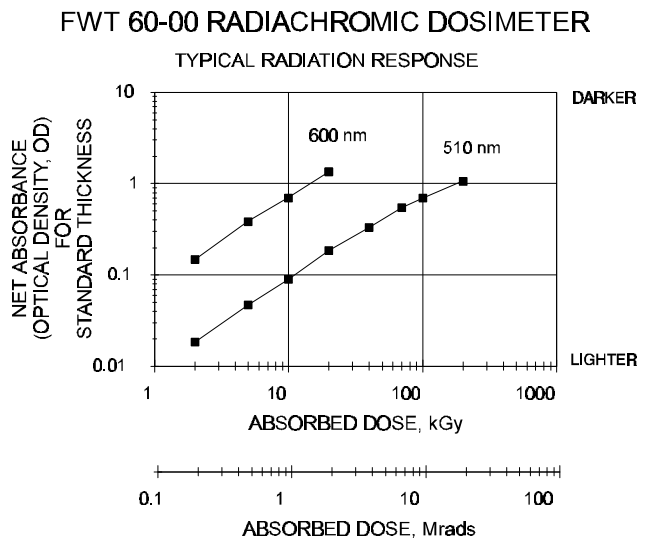

Figure 4 Typical Response Curve in Various Units
Figure 4 below is a typical curve for the Radiachromic Dosimeters. The net absorbance was read in an FWT reader and shows the approximate Optical Density (OD) expected for absorbed dose. Background has been subtracted from these readings. The absorbed dose is shown in both kGy and Mrads